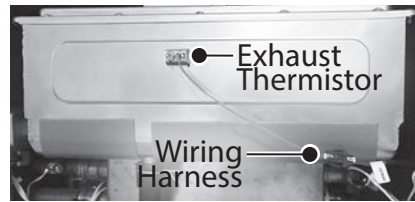

Figure 62 - Exhaust thermistor location
**14** Locate the exhaust thermistor as shown in Figure 62.